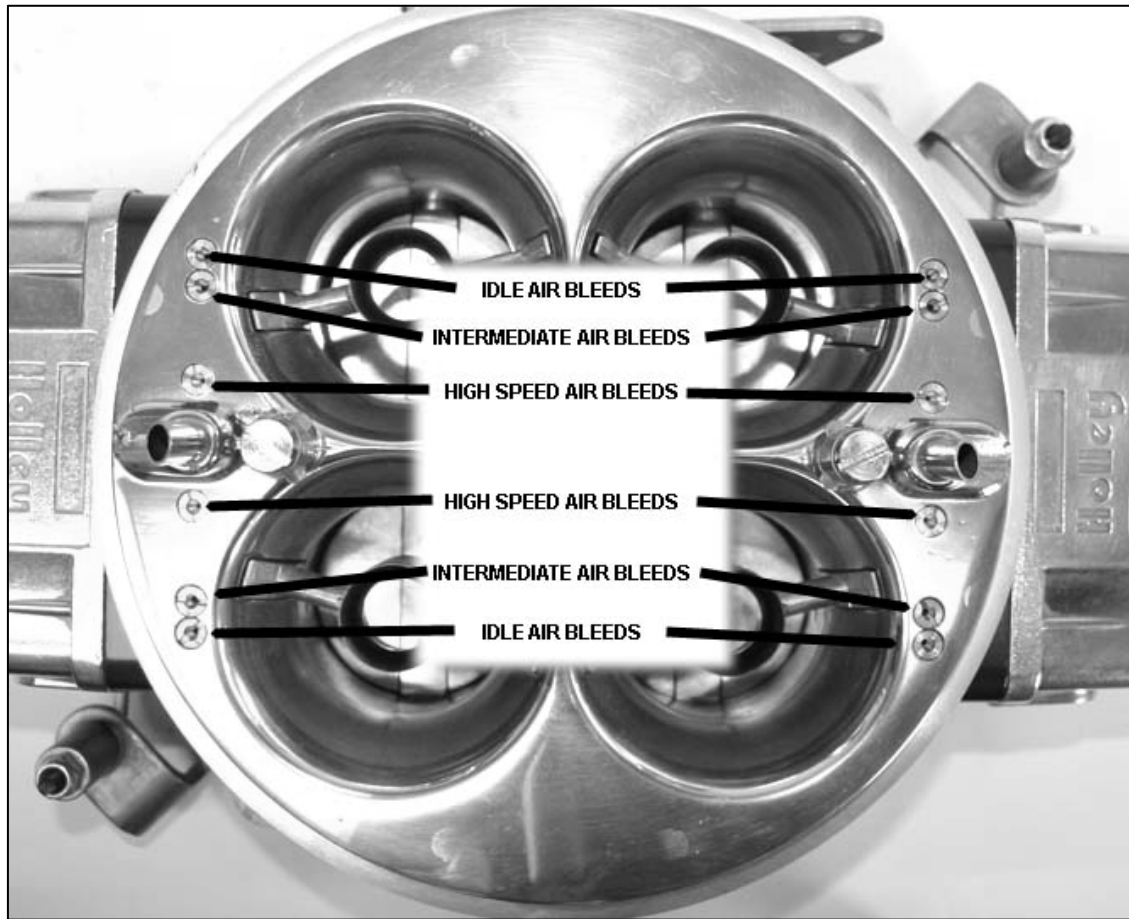

Figure 10
**WARNING! AIR BLEED SIZES SHOULD NOT BE ADJUSTED MORE THAN SIX (6) SIZES IN ANY ONE DIRECTION FROM THE ORIGINAL AIR BLEEDS, AS SHIPPED FROM HOLLEY. AIR BLEED ADJUSTMENT BEYOND SIX (6) SIZES COULD RESULT IN A LEAN ENGINE, CAUSING SEVERE ENGINE DAMAGE, PROPERTY DAMAGE, SERIOUS INJURY, AND/OR DEATH.**
**NOTE:** See Figure 10 for air bleed locations and identification. It is recommended that all jet sizes be documented before any tuning of the air bleeds or main jets is started. Below is a chart for recording the jet and air bleed sizes for your 4500 ULTRA HP DOMINATOR carburetor, as shipped from Holley. Should you adjust the air bleed size or main jet size, this chart will allow the tuner to return the carburetor to the original jetting. Please place this information in a safe place along with any other documentation for your carburetor.